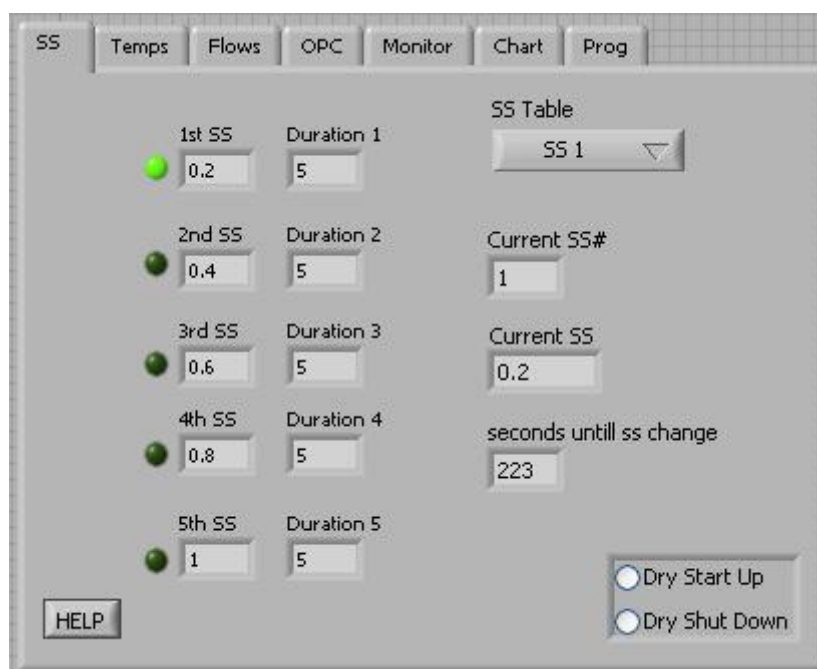

Figure 8: SS Tab
3. During the first 10 seconds after the program starts, click the **Dry Start Up** button shown in Figure 8. Selecting **Dry Start Up** will set the liquid supply pump to high and disable the CCN concentration alarm.